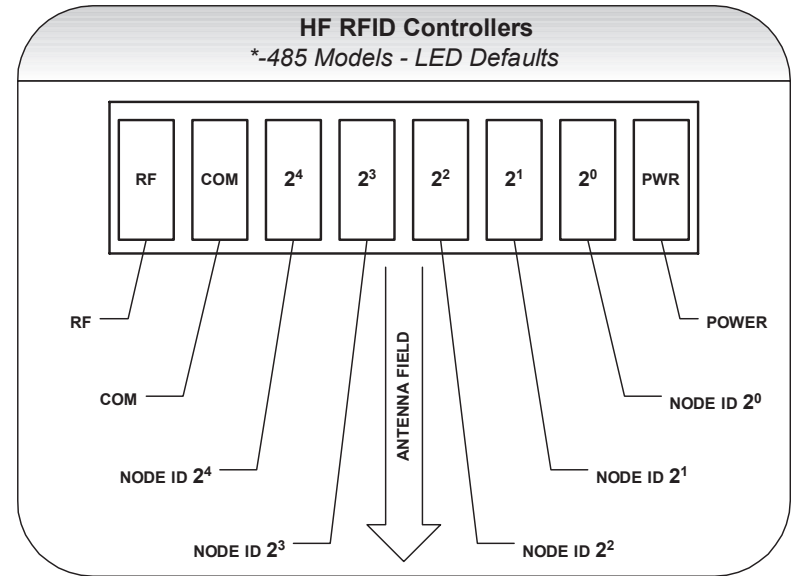

Figure 3: LEDs
3. Turn the power supply ON. The green power LED on the unit will illuminate when power is applied to the unit. The five amber colored Node LEDs, when lit, display the Node ID value (in binary format from right to left) currently assigned to the RFID Controller (see Figure 3). Note: the factory default Node ID value is Node 00 - in which case none of the amber Node LEDs will be lit.